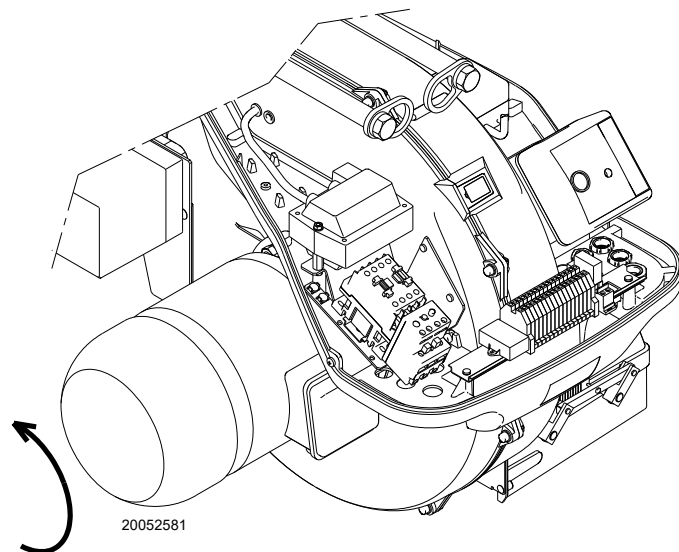

Fig. 29
- check the fan motor rotation direction, as shown in Fig. 29.